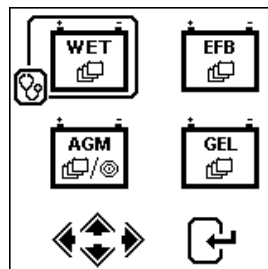

Fig. 23
6. Next it will prompt you to select the types of batteries (Fig.23) :